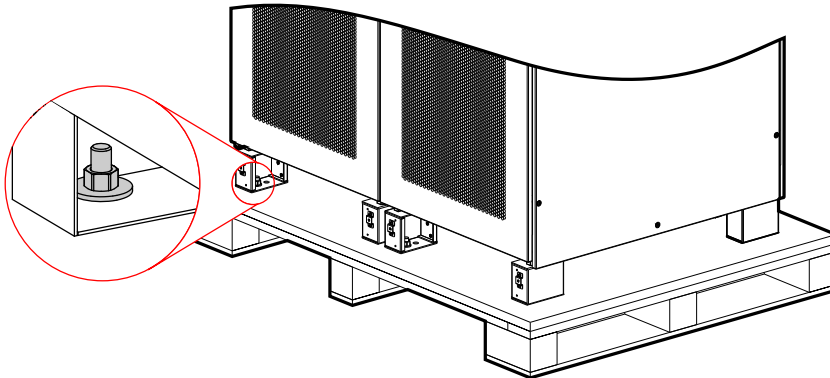

Figure3-6 Bolt position
- Step 6 Unscrew the bolts that connected with cabinet and wooden bracket by socket wrench, the bolt position is as shown in Figure3-6.